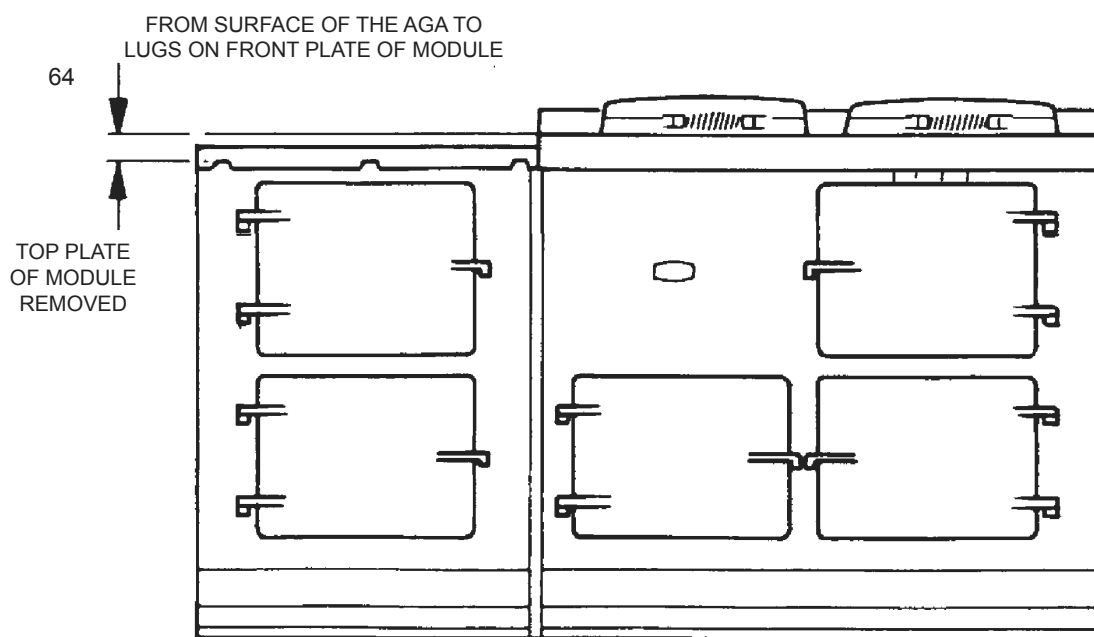

Fig. 9.6
2. Levelling of the simmering plate on the main cooker can be carried out with its top plate in position and verified across the Module. (See **Fig. 9.6**).